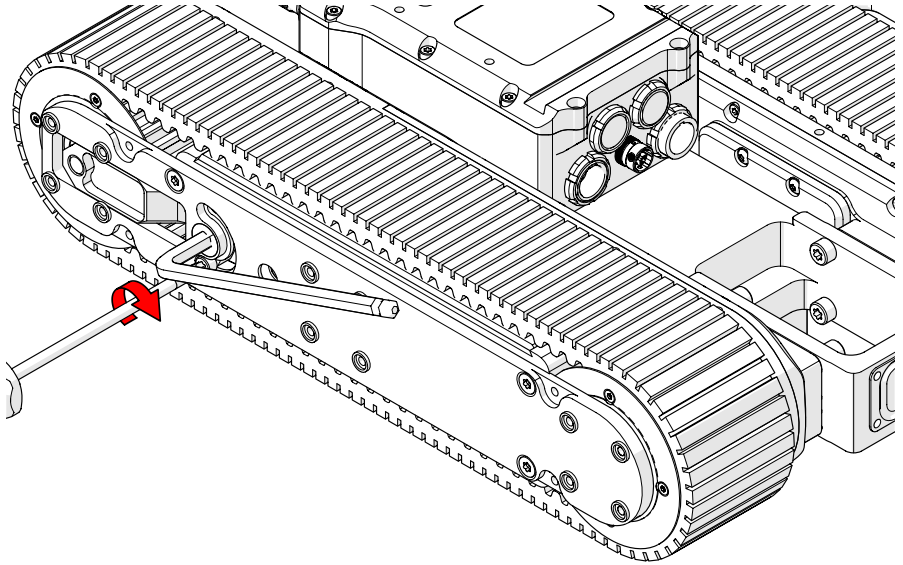

Fig. 62 - Tighten belt tension holding screw
3. Tighten the belt tension holding screw with a T20 driver (Fig. 62).